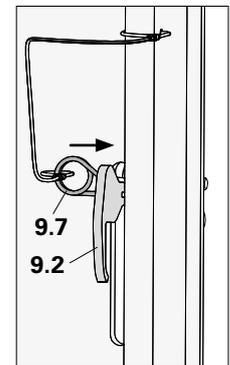

Fig. A1.36
4. 4. Secure one counterholder (9.2) with a cotter pin (9.7). (Fig. A1.36)